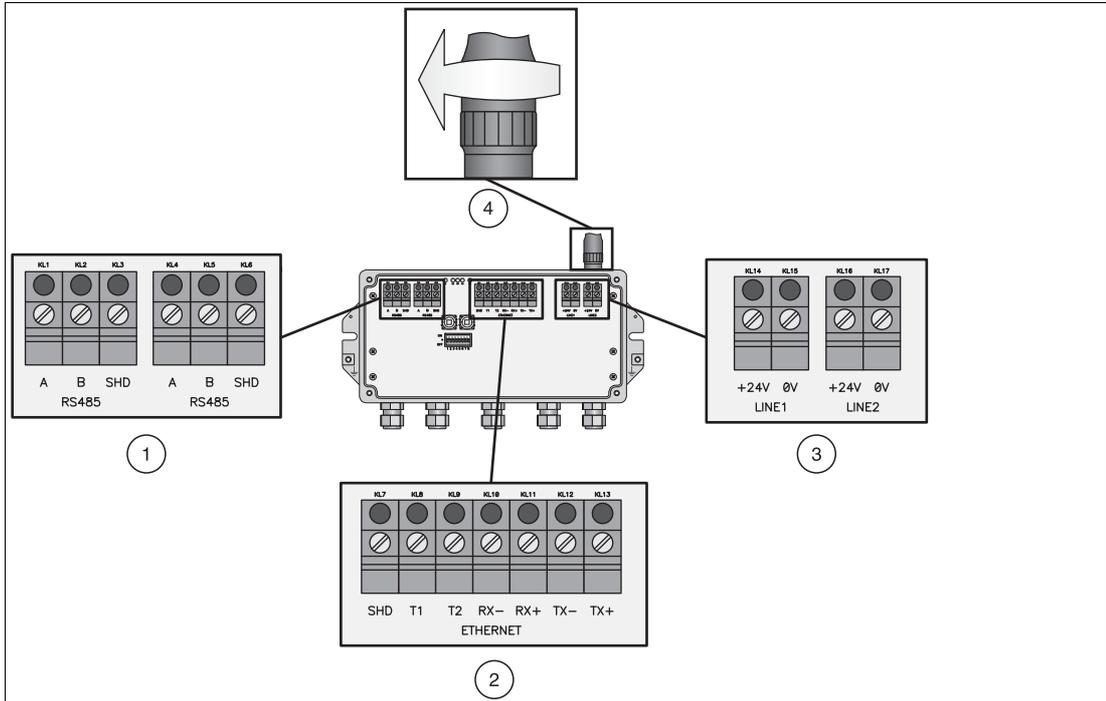

Figure 1.1 RS485, Ethernet and power supply connections of the Gateway
3. Screw the antenna to the antenna connection and then connect the Gateway to a power supply (see figure 1.1).